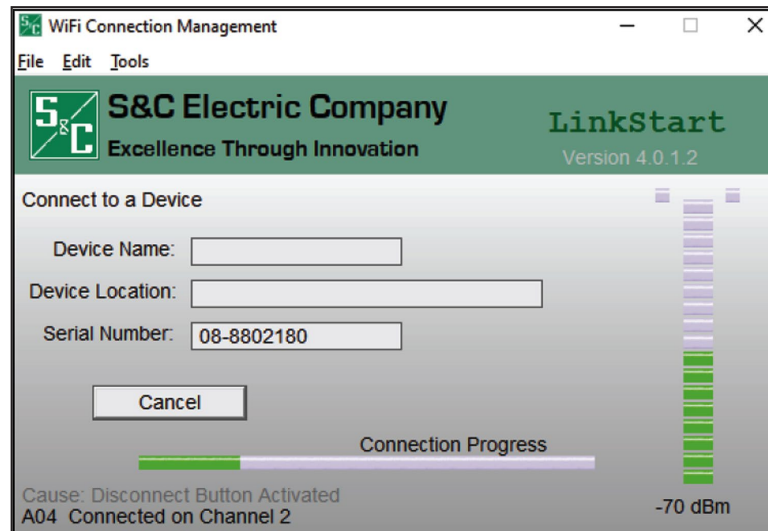

Figure 24. The Wi-Fi connection Management dialog box.
STEP 4. For Wi-Fi connections, LinkStart software starts and the device serial number must be entered in the Serial Number field. Then, click on the Connect button. See Figure 24.